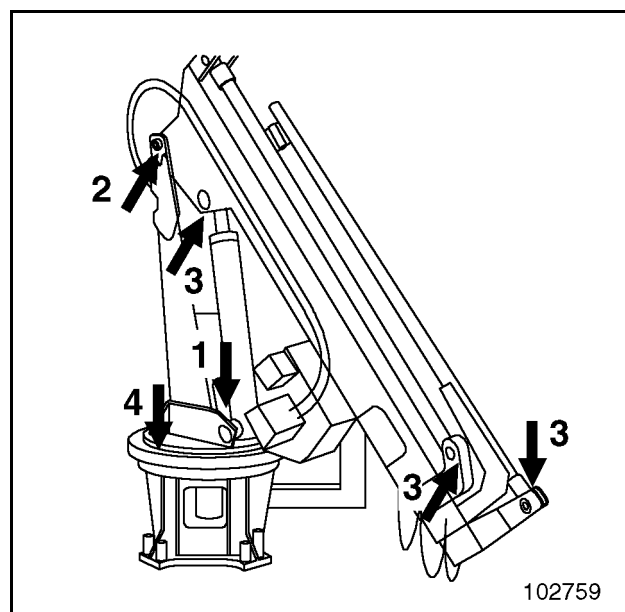

Fig. 3-159:
- Fill up fuel tank through filler (5, Fig. 3-159:) after each deployment.
- Check batteries (7) and cable connections at regular intervals.
- Prior to each deployment, check the hydraulic oil level at the inspection glass (12, Fig. 3-159:); top up if necessary.
- Check contamination of hydraulic oil filter regularly at contamination indicator (arrow, Fig. 3-159:).
- Regularly, but at least once a year replace the hydraulic oil filter (14) and the breather filter (13).